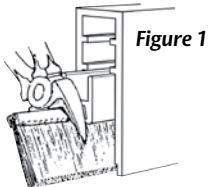

Figure 1
3. DO NOT cut off more than two (2) inches.
6. For nylon brush seal ADB's, use bolt cutters or diagonal cutting pliers that will pinch the strip to retain the bristles (as shown in Figure 1).